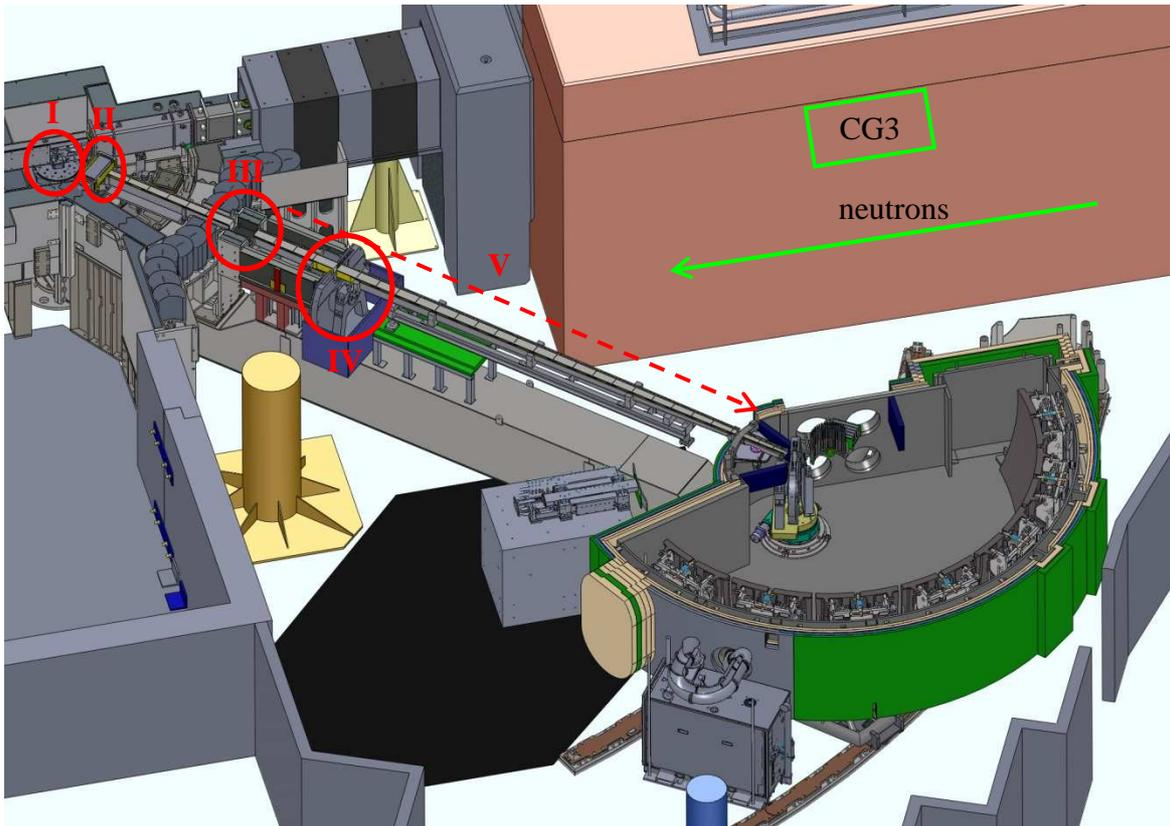

Figure 2: Conceptual design of the EMU spectrometer (side view)
A narrow energy width translates to a high-resolution, i.e. the ability to resolve sample relaxation times as long as several nanoseconds for silicon crystals configured in backscattering. The backscattering condition implies that the backscattered beam travels the same path as the incident beam, which imposes serious constraints on the instrument design and geometry. In order to allow the highest detector count rate, the neutron beam angular divergence is relaxed by use of spherical focusing, resulting in the compact instrument geometry shown in Figure 2 (side view) and Figure 3 (plan view).
The EMU premonochromator (Figure 2, I) deflects a fraction of the CG3 neutron beam into the EMU focusing guide. The remainder of the neutron beam travels on to KOOKABURRA and PLATYPUS.
The beryllium filter (Figure 2, II) is placed between the premonochromator and the tertiary shutter. It is a block of dimensions 282 (L) x 120 (W) x 170 (H) mm³, where the width is oriented along the neutron beam. It transmits only the HOPG (002) reflected neutrons, and scatters higher energies away from the transmitted beam. These higher energy neutrons are absorbed into the premonochromator shielding. The beryllium block itself is housed in a vacuum vessel and cooled by a closed-cycle refrigerator to liquid nitrogen temperature to increase its efficiency.
The neutron beam path from CG3 to the EMU instrument is closed by the tertiary shutter (Figure 2, III), so as to allow safe access to the instrument. In the open shutter position, the neutron beam proceeds down the focusing guide and through the background chopper.
The background chopper (Figure 2, IV) is a disc chopper ~ 2500 rpm spinning speed, ~ 700 mm diameter. It is made of two borated-epoxy coated aluminium discs bolted together at the desired sector angle so as to yield the desired ~ 37% transmission duty cycle. In its closed state the top of the chopper disc blocks the neutron beam path. The chopper is spinning inside a vacuum housing and is synchronized with the graphite chopper, as shown in Figure 5.
The focusing guide (Figure 2, V) efficiently transports the neutron beam from the EMU premonochromator to the graphite chopper. The focusing guide consists of precision-assembled glass elements that are coated with NiMo-Ti supermirrors and glued together to form the neutron guide.